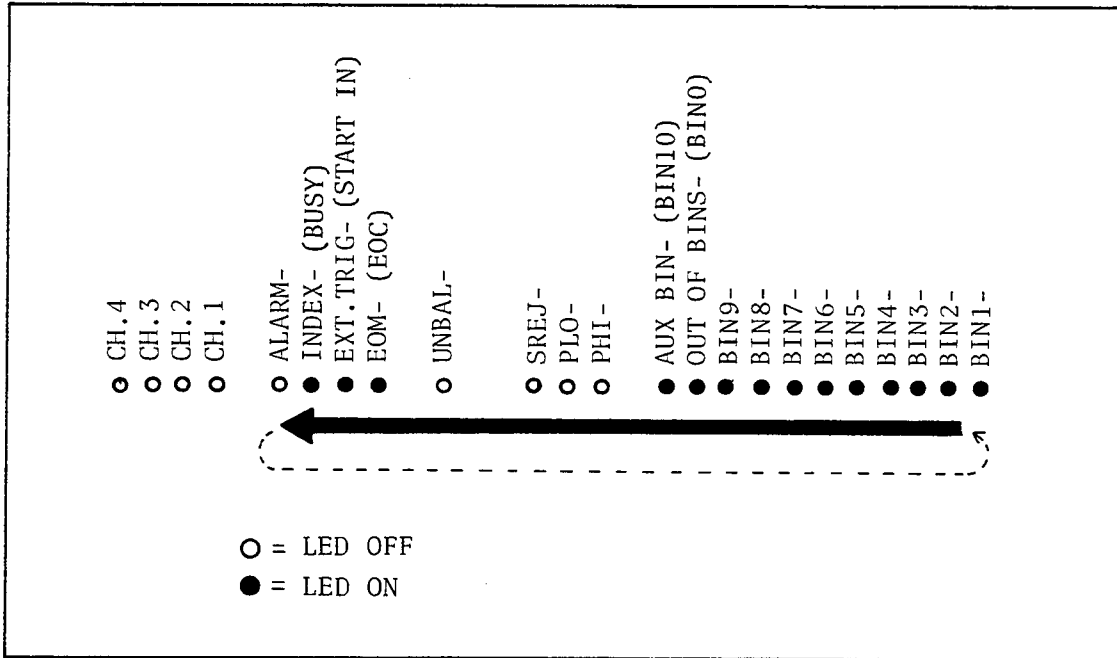

Figure 6-17. Handler Interface Function Check (Option 202)
14. Confirm that the LEDs on the handler simulator board light in the sequence shown in Figure 6-17.